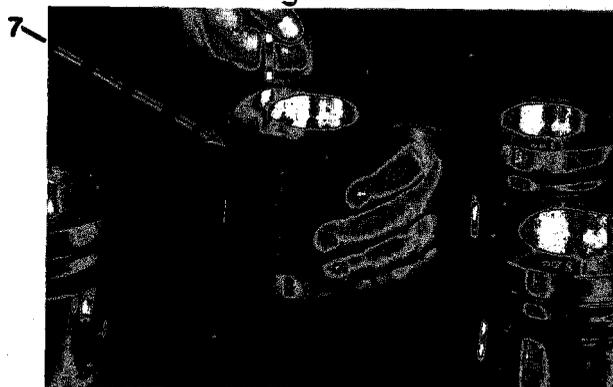

Figure 6-25
17. Using a ring compressor, compress three piston rings (7, Figure 6-25).